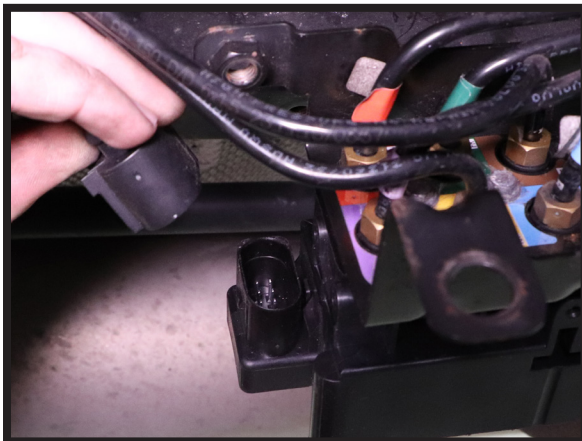

FIGURE 15
4. RECONNECT THE ELECTRICAL CONNECTION. (FIGURE 15)